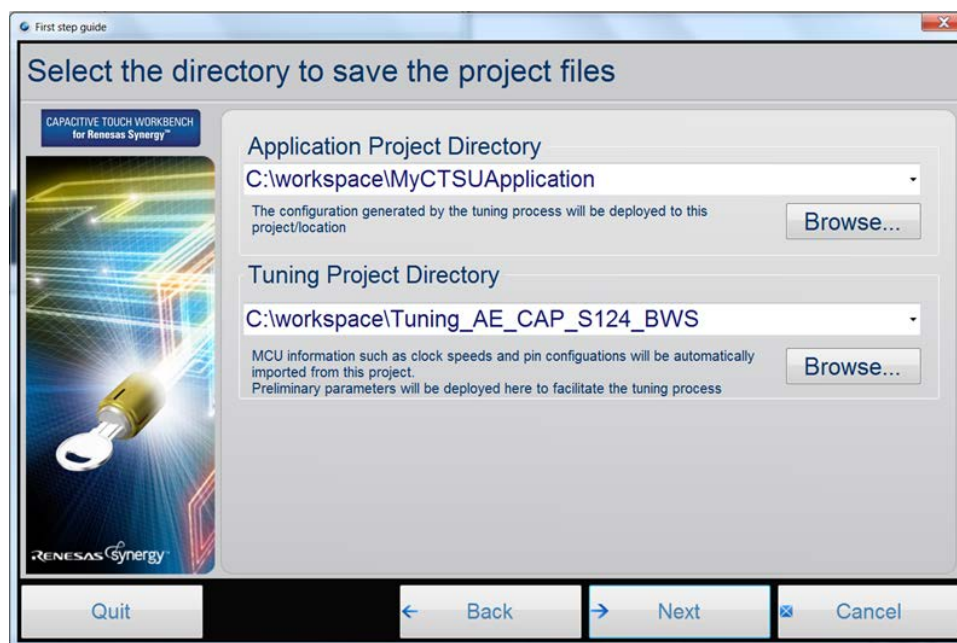

Figure 8. Select Tuning Project and Application Project Directories
3. Under **Application Project Directory** in Figure 8, browse to the root directory of the application project if you have created one. After the tuning is complete, the application creates the **captouch_configs** folder in the **lsrc** directory of the application project. This folder stores the tuning results that your application